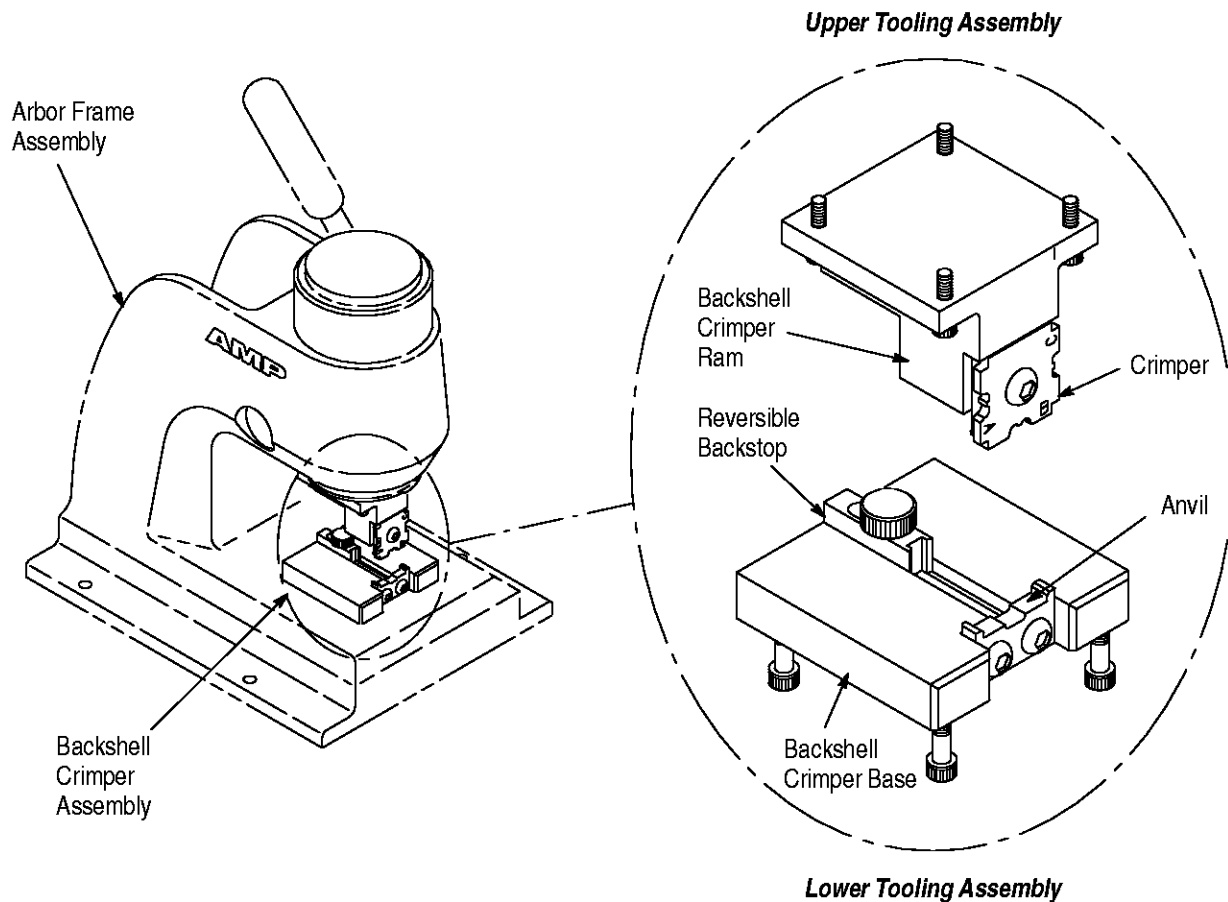

Figure 1
2. DESCRIPTION (Figure 1)
To install the crimper assembly, refer to Figure 1 and proceed as follows: